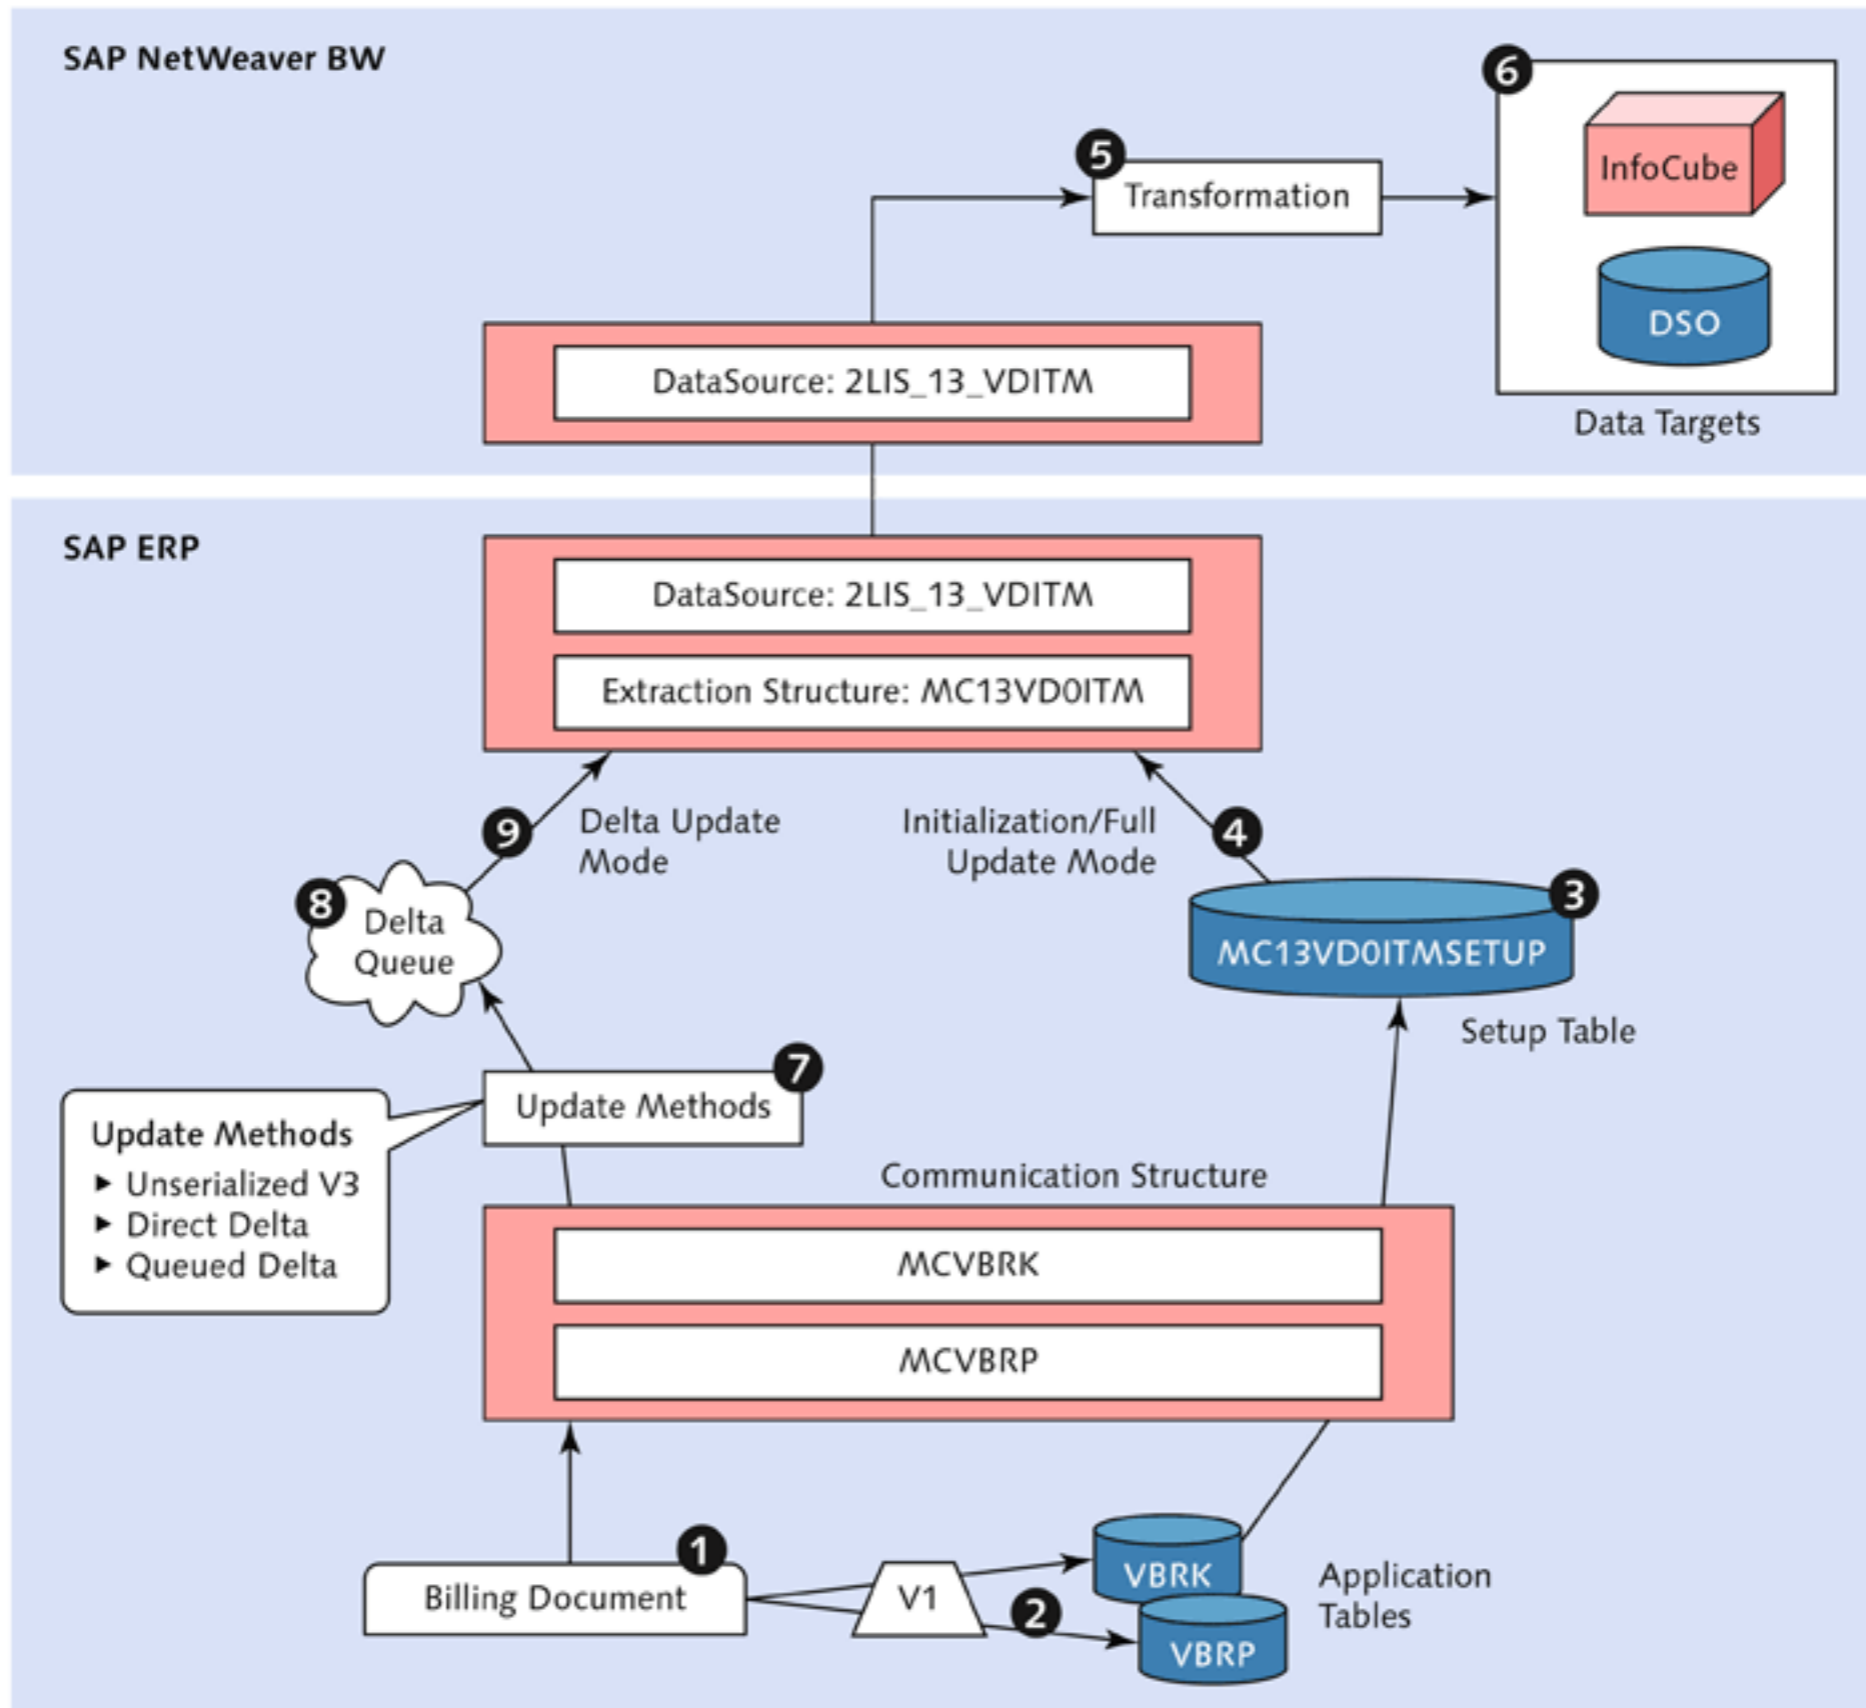

Figure 8.3 Logistics Cockpit Overview
These DataSources require special attention because their extraction follows a well-defined process that uses a special framework: the *Logistics Cockpit*. Figure 8.3 gives an overview of the Logistics Cockpit. Next we discuss several topics relevant to data extraction using the Logistics Cockpit.
ABCD Corp. has an analysis requirement based on a billing application that is part of the Logistics Cockpit. The standard billing application allows you to create, change, or delete billing documents, as shown in 1 of Figure 8.3. Each of these activities results in addition, modification, or reduction to the multiple billing documents stored in the billing application tables (VBRK and VBRP in 2 of Figure 8.3).
Almost all of the logistics-related applications offer delta-capable DataSources. To identify the new data (or changes to the existing data from history) from the historical data, the two sets of data are distinguished using a process called *initialization*, which sets a point of reference for the historical data and also gives the option to load this historical data to SAP NetWeaver BW. To use the delta capability of the DataSource, this process of initialization (④ of Figure 8.3) must be carried out. Any new data generated after an initialization is identified as *delta data*. Next we discuss the steps involved in this process.
To move historical data from an SAP ERP system to an SAP NetWeaver BW system, you must fill up the setup tables (i.e., copy the historical data based on the selection condition from the application tables, and replicate it in the setup tables) in the SAP ERP system (③ of Figure 8.3). The data in the setup tables is read either during the initialization process or during the full update mode. The setup tables are filled for the entire application component, not for individual DataSources; you use selection conditions to filter the relevant data from underlying application tables.
After successful initialization, delta records get captured and passed to an area known as the delta queue, which stores records that are ready to be extracted by SAP NetWeaver BW after the InfoPackage is executed in delta mode (⑧ of Figure 8.3). There are three different update methods for processing this data (⑦, ⑧, and ⑨):